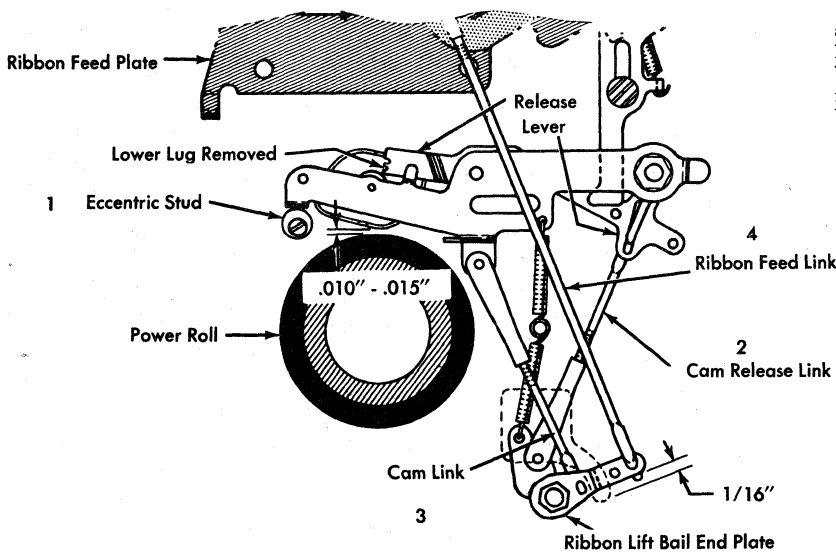

Figure 48. Ribbon Feed Adjustments
frame and may be reached through an opening in the power roll drive pulley (Figure 48).
2. Adjust the cam release link so that the ribbon cam is released when any type face is $\frac{3}{4} \pm \frac{1}{8}$ " from the platen (Figure 48). A variation in the tripping point between different type bars may be an indication that the vane on top of the ribbon lift bail is curved.
3. Adjust the link from the cam to the ribbon lift bail end plate so that the bail end plate is $\frac{1}{16}$ " above the bottom of the slot in the side frame (Figure 48). Make this adjustment by disconnecting the link and turning the clevis with a spring hook, reaching down through the side frame of the machine.